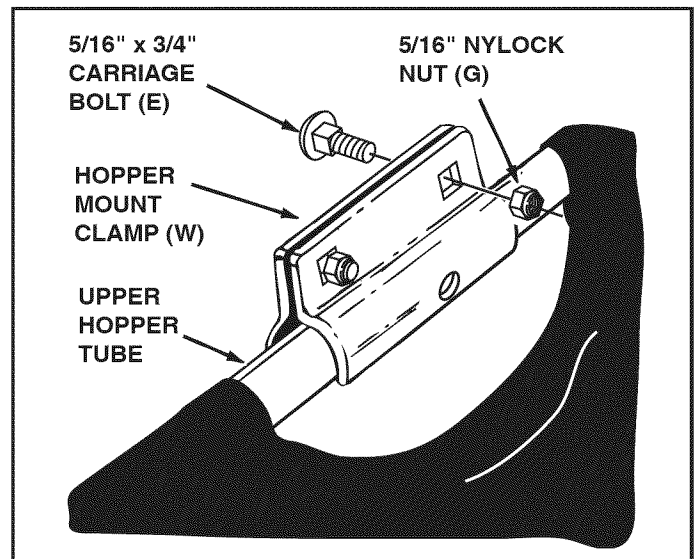

FIGURE 13
- Assemble two hopper mount clamps (W) over the hole in the middle of each upper hopper tube using two carriage bolts (E) and two nylock nuts (G). Tighten only finger tight. See figure 13.